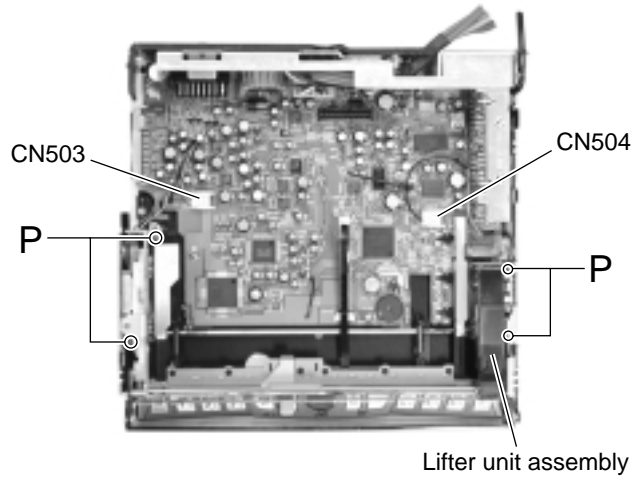

Fig.13
■ Removing the lifter unit (See Fig.13)